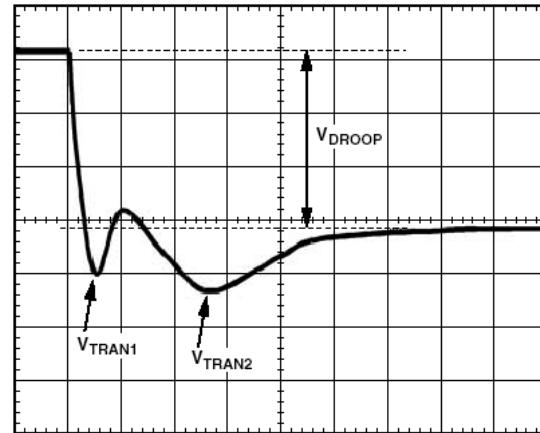
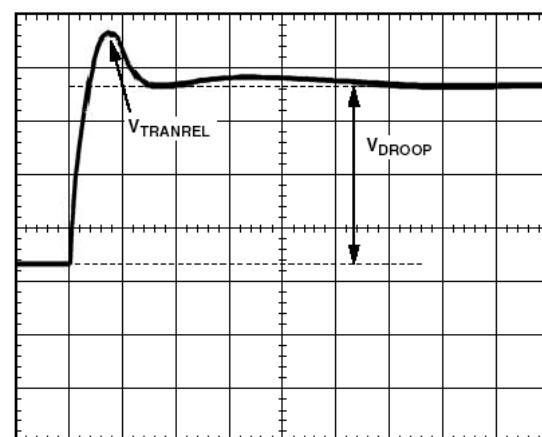

Figure 9. Transient Setting Waveform
Figure 10. Transient Setting Waveform
19. With dynamic load still set at maximum step size, expand scope time scale to see $2\mu\text{s}/\text{div}$ to $5\mu\text{s}/\text{div}$. You will see a waveform that may have two overshoots and one minor undershoot (see Figure 9). Here, VDROOP is the final desired value.
21. For load release (see Figure 10), if VTRANREL is larger than VTRAN1 (see Figure 9), you do not have enough output capacitance. You will either need more capacitance or to make the inductor values smaller (if you change inductors, you need to start the design over using the spreadsheet and this tuning procedure).